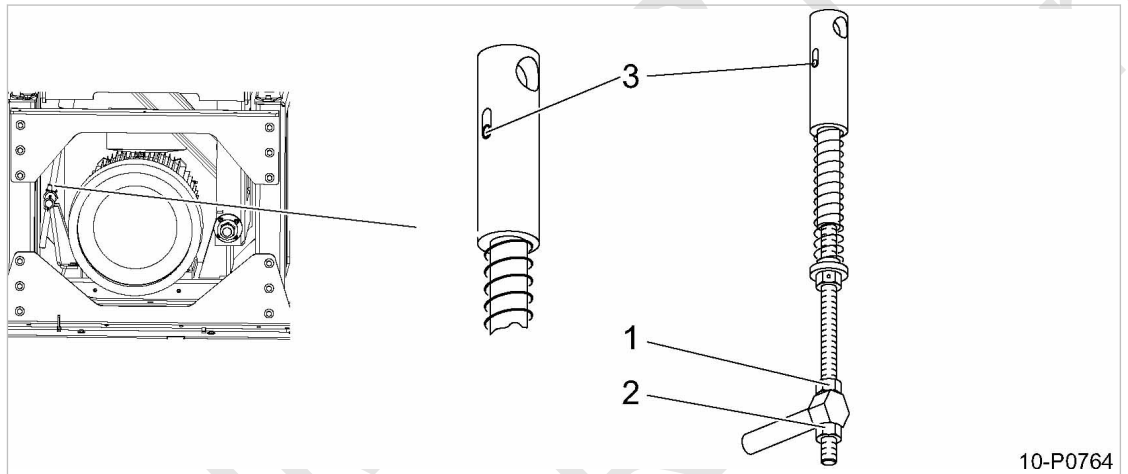

Fig. 44 Re-tighten the drive belt
- ① Removable panel
- ② Motor pulley
- ③ Drive belt
2. Turn the locking nut ② of the swing frame adjuster downwards, see Fig. 44.
3. Turn the hexagonal nut ① clockwise until the V-belts have slack, see Fig. 44
6. Release the nut ① until the V-belts are tensioned, see Fig. 44